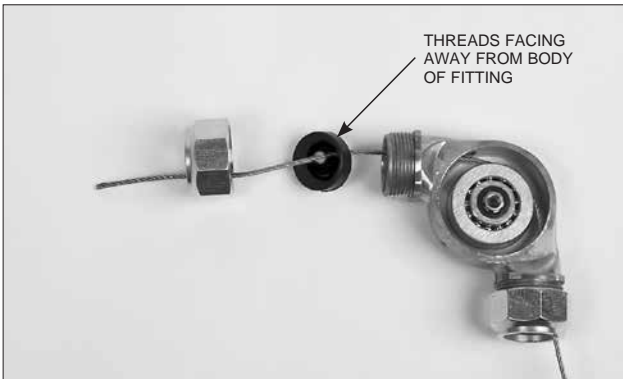

FIGURE 4-50
2. Thread the stainless steel wire rope through the EMT conduit connector and flexible conduit insert. Make certain thread in flexible conduit insert is facing out toward end of connector. See Figure 4-50.